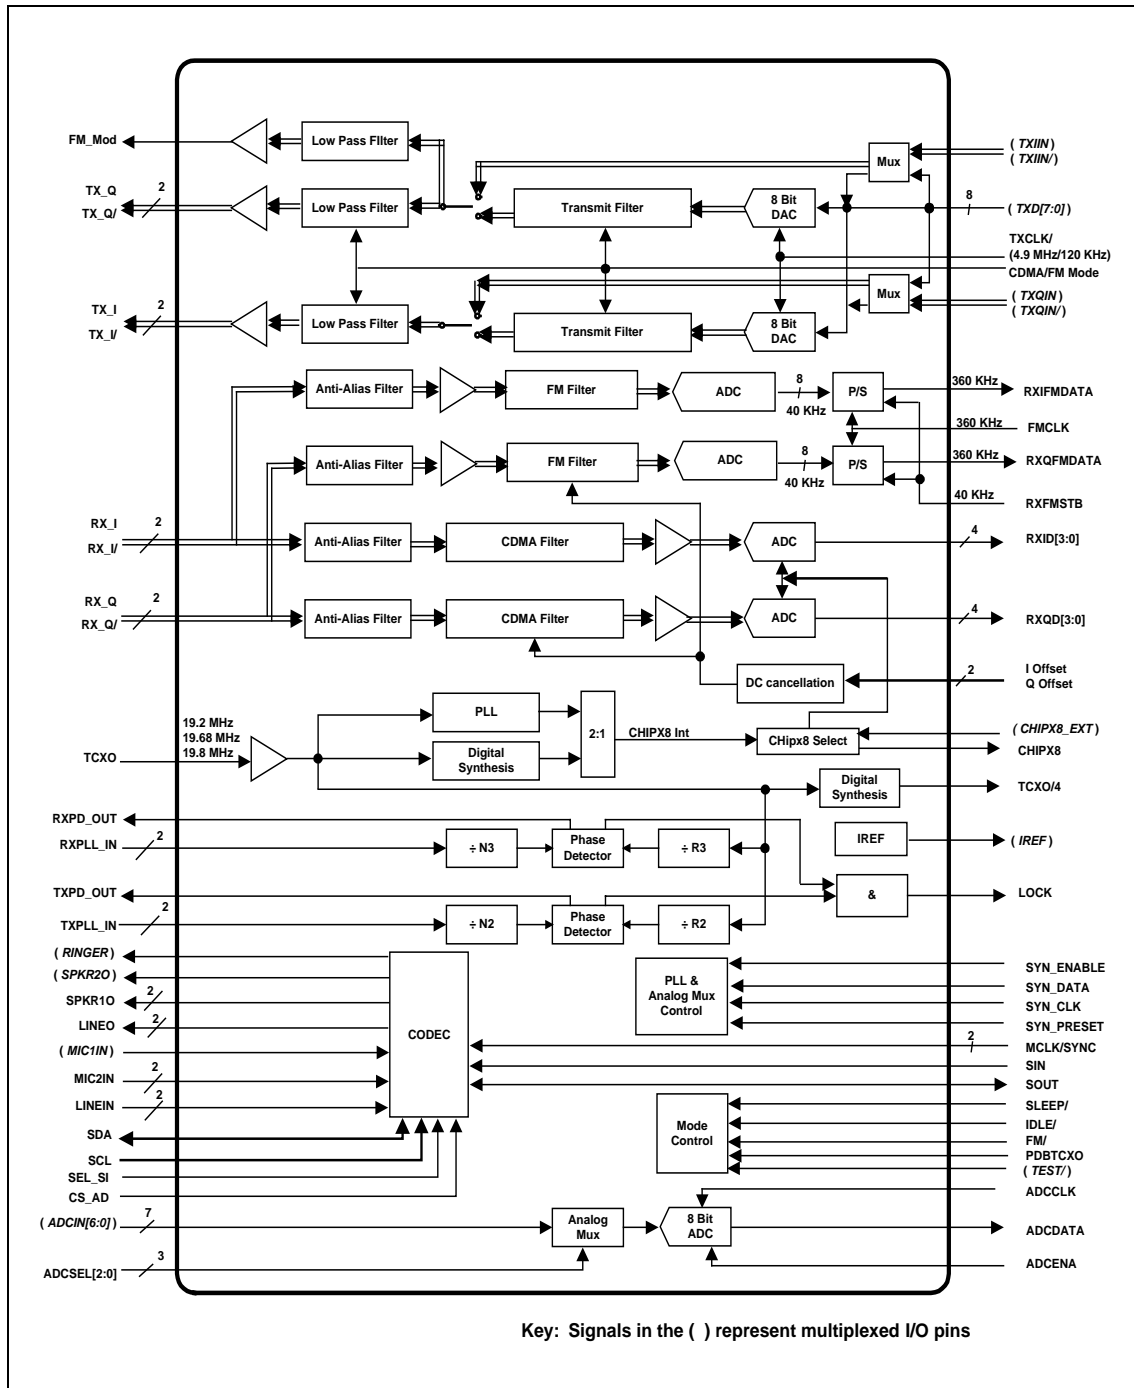
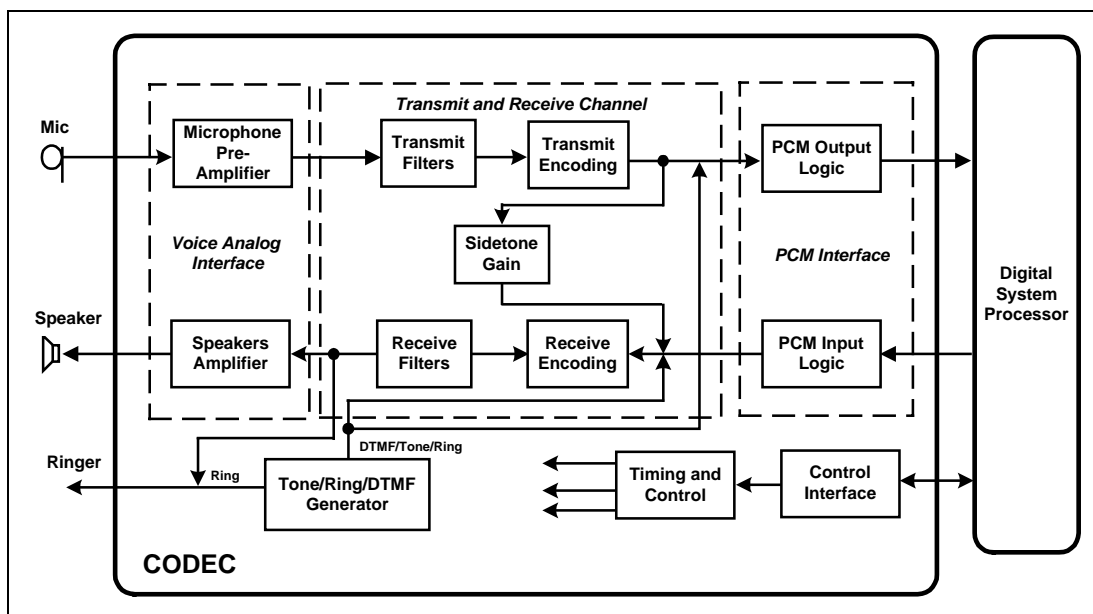

Figure 4. CX20470 System Block Diagram (100-Pin μBGA Package)
Figure 5. CX20470 BAP Audio CODEC Block Diagram (100-Pin μBGA Package)
The CX20470 consists of a CDMA transmit and receive path, FM transmit and receive path, Intermediate Frequency (IF) PLL synthesizer section, an auxiliary control section, and an audio CODEC section. Each of these functional sections is detailed in the complete CX20470 system block diagram shown in Figure 4.
As shown in Figure 5, CODEC operations can be divided into four groups: transmit (ADC) channel, receive (DAC) channel, timing and control, and power control.
Tables 6 through 9 specify input and output signal levels and electrical characteristics. A system block diagram is provided in Figure 4 and an audio CODEC block diagram is presented in Figure 5.